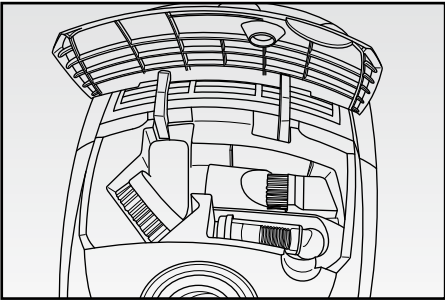
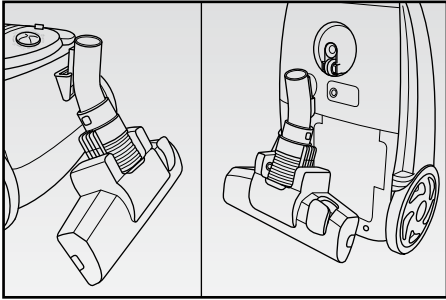

Fig. 6
Fig. 7
- Store the appliance by inserting the attachments into the apposite compartment (G) on the top (FIG. 6) and positioning the floor brush (S) on the rear hook or the lower one (FIG. 7).